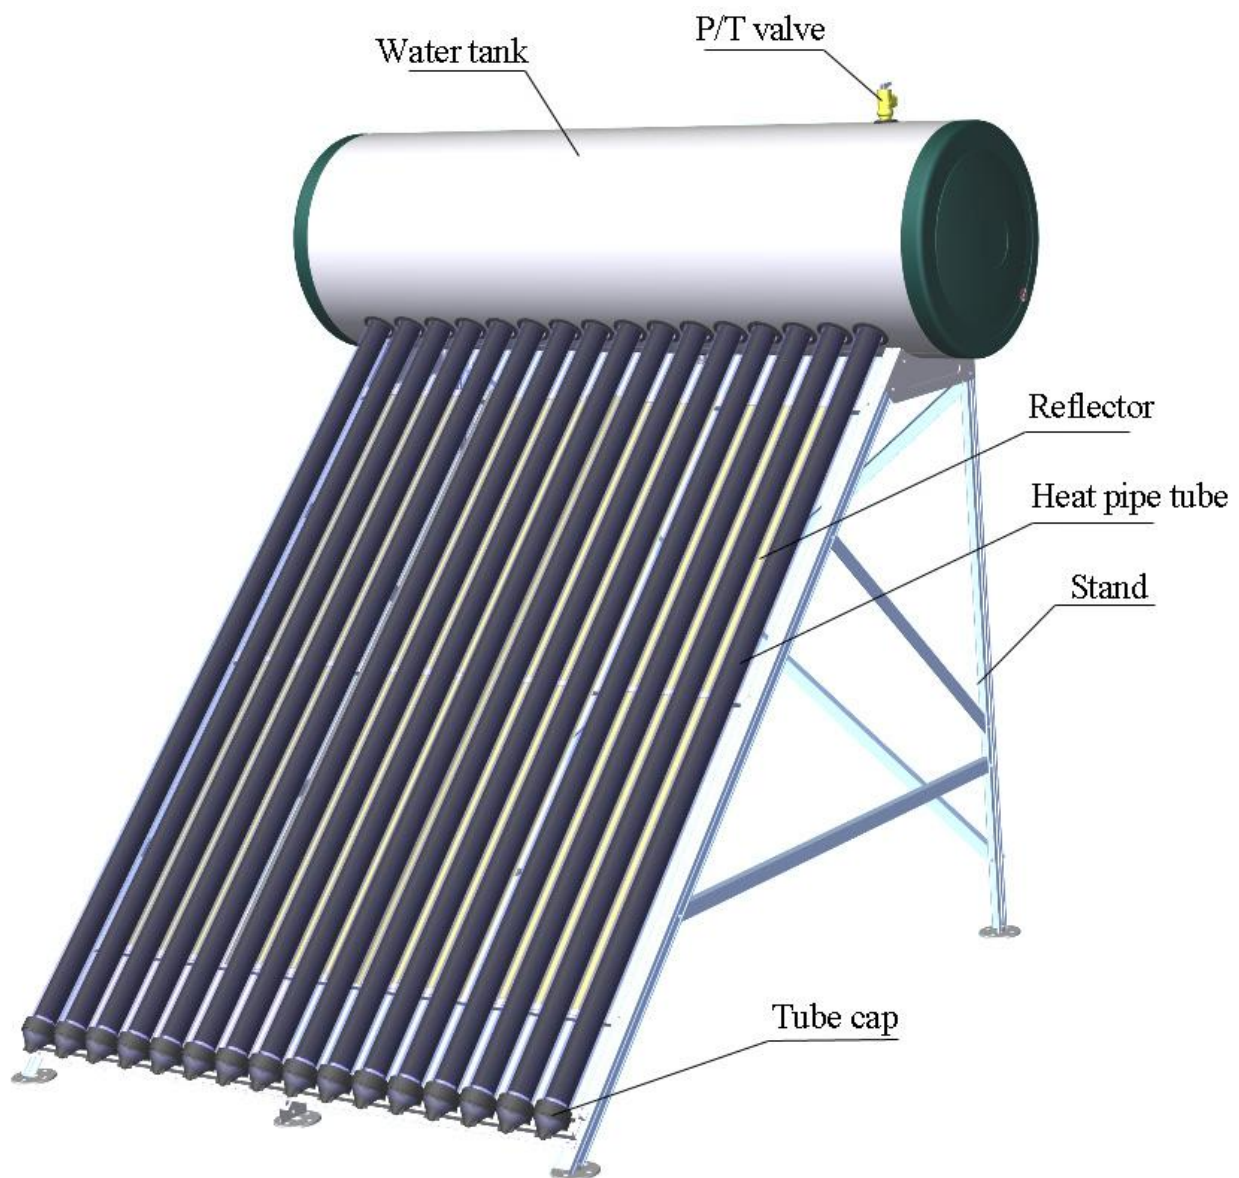

Fig. 1
1. Compact heat pipe solar water heater (see Fig 1)